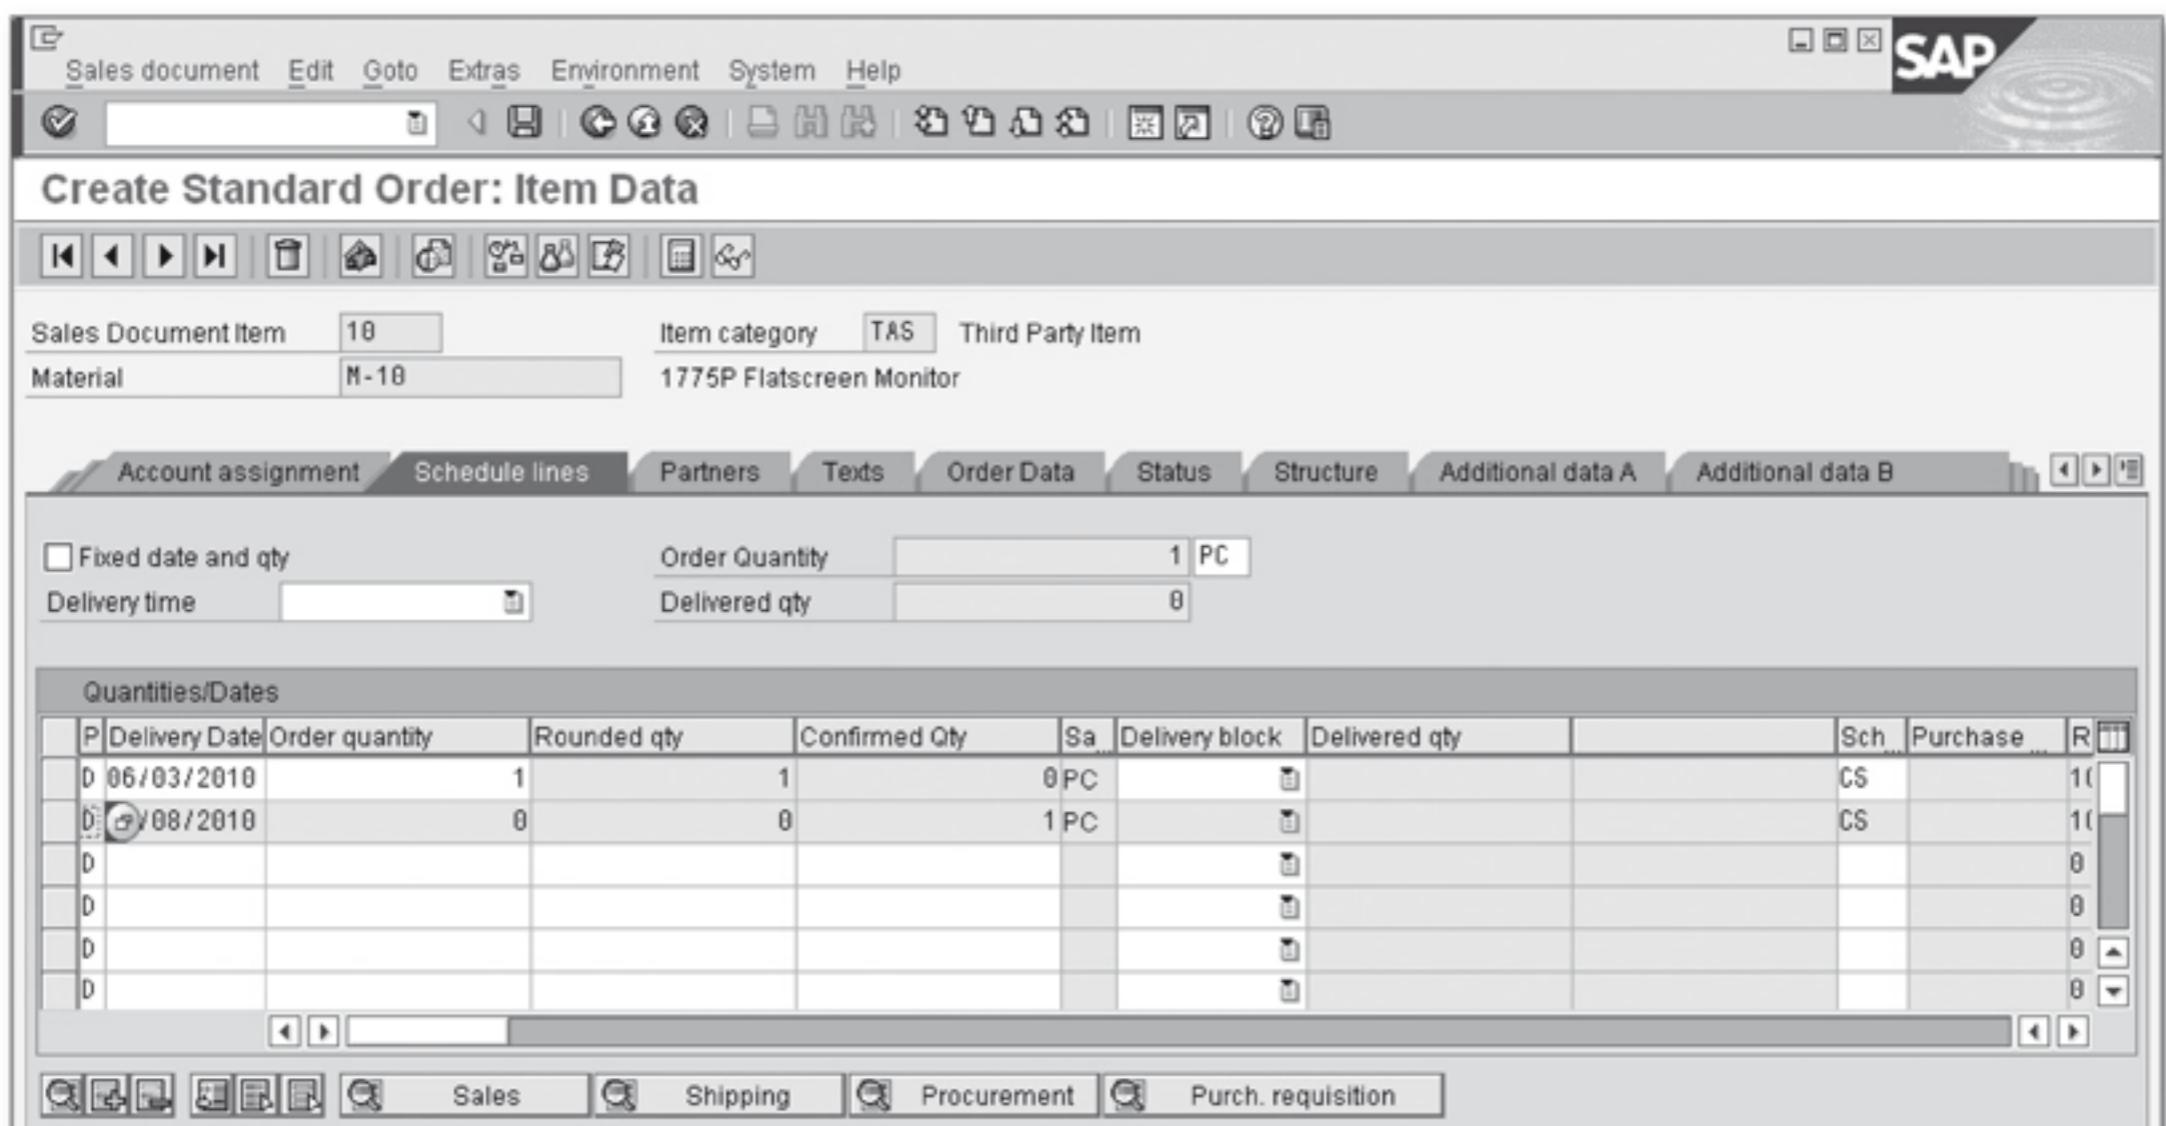

Figure 3.63 Third-Party Sales Order – Schedule Line Details
6. Now you can review the details of the schedule lines created. Note that the CS-Leg schedule line category has been determined (see Figure 3.63). To get to this screen, select your item on the Overview screen, and click on the Schedule Lines for Item icon on the bottom of the screen or use pull-down menus to select GoTo • ITEM • SCHEDULE LINES, and click on the Purch Requisition icon on the bottom portion of the screen.